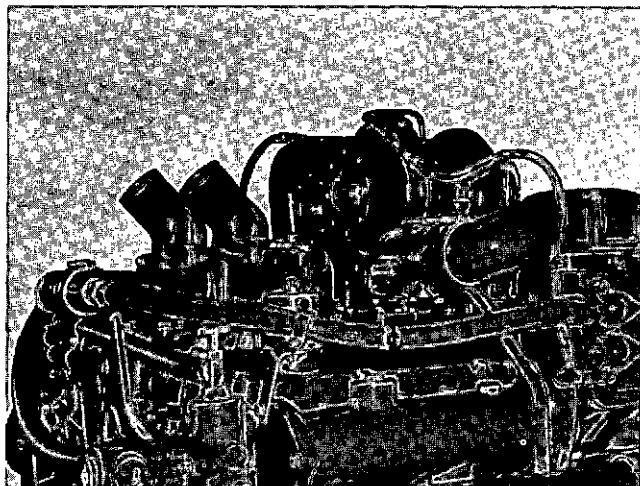

Fig. 14-1-106, V414225. Intercooler connections
4. Connect water inlet and return lines between intercooler and termination point. Fig. 14-1-106.